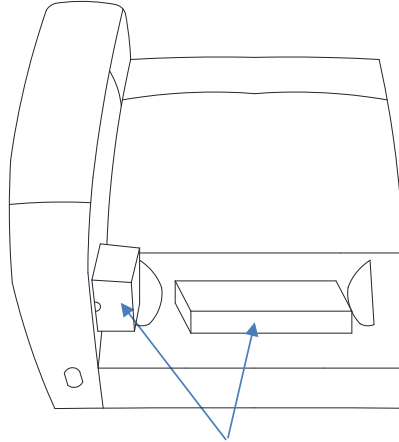

Figure 1
Detach the transformer and wing from the back of the Seat (B). (See Figure 1.)